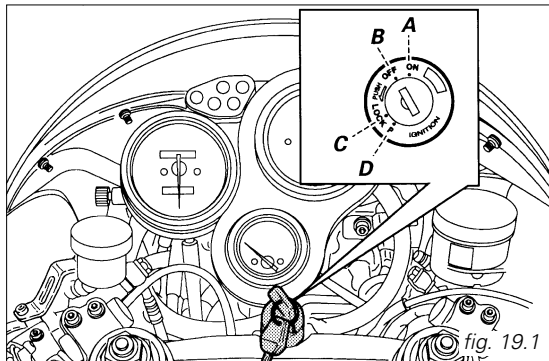

fig. 19.1
1) Move the ignition key to **ON** (fig. 19.1). Make sure both the green light **N** and the red light  on the instrument panel come on.